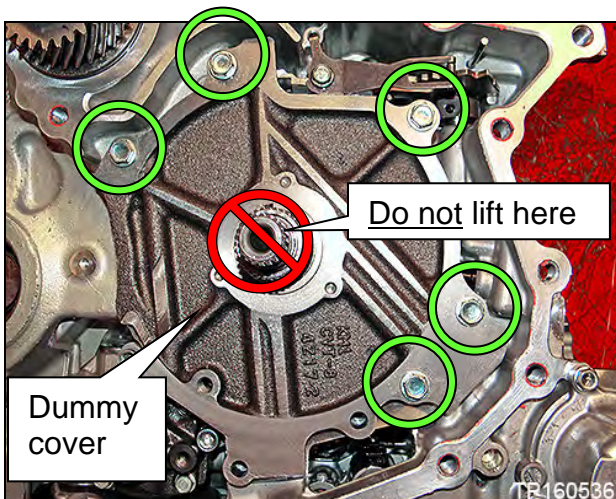

Figure 19C
- Remove the five dummy cover bolts, and then remove the dummy cover. See Figure 19C.
- Lift the dummy cover from sides **ONLY**. Do **NOT** lift from the input shaft (Figure 19C). This can lift the clutch pack out.